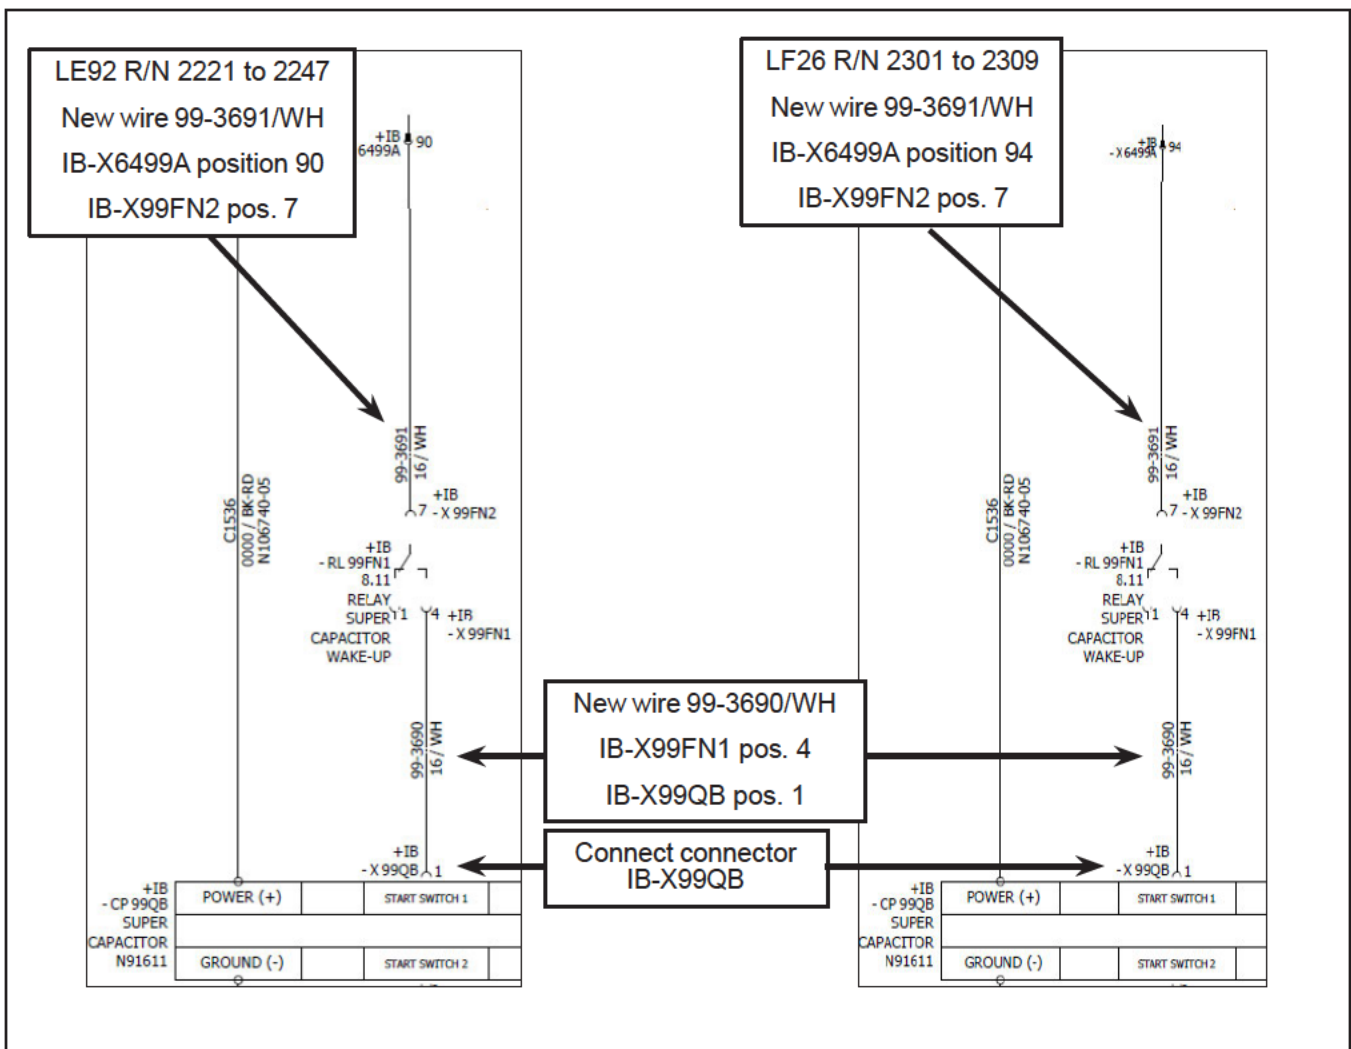

Figure 7 - New Wires 99-3690 and 99-3691 Installation
- 1.18. Connect wire 99-3690/WH (available in wire kit N632001301) in connector IB-X99QB and new relay base IB-X99FN1 (N49576175 circuit breaker ass). See Figure 7.
- 1.19. Connect wire 99-3691/WH (available in wire kit N632001301) in connector IB-X6499A and new relay base IB-X99FN2 (N49576175 circuit breaker ass). See Figure 7.
- 1.20. Connect connector IB-X99QB to the super capacitor. See Figure 7